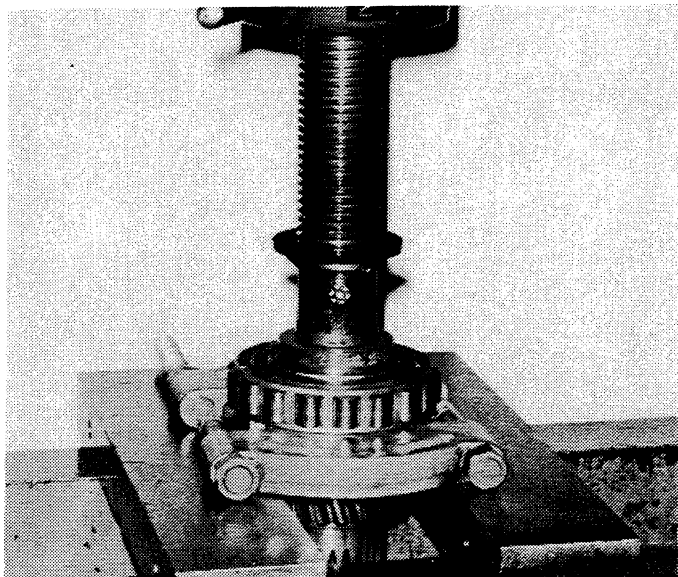

Figure 6-43. Pressing Inner Race of Roller Bearing from Front of Input Pinion.
a. Press the inner race off from the input pinion. See Figure 6-43.